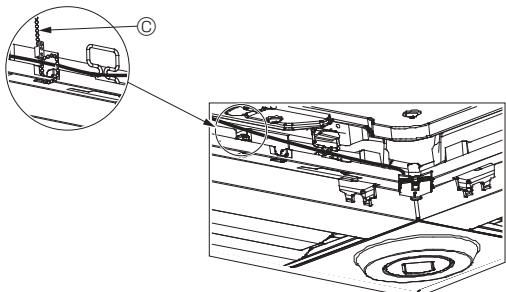

Fig. 10-12
- Secure the i-see Sensor and signal receiver wires to the panel with the fastener as shown in the diagram so that there is no slack in the wires, and then cut off the excess end of the fastener. (Fig. 10-12)
- If the position of the i-see Sensor was changed from the “○” position (E) to the “□” position (F), change the function settings. (Refer to page 14.)